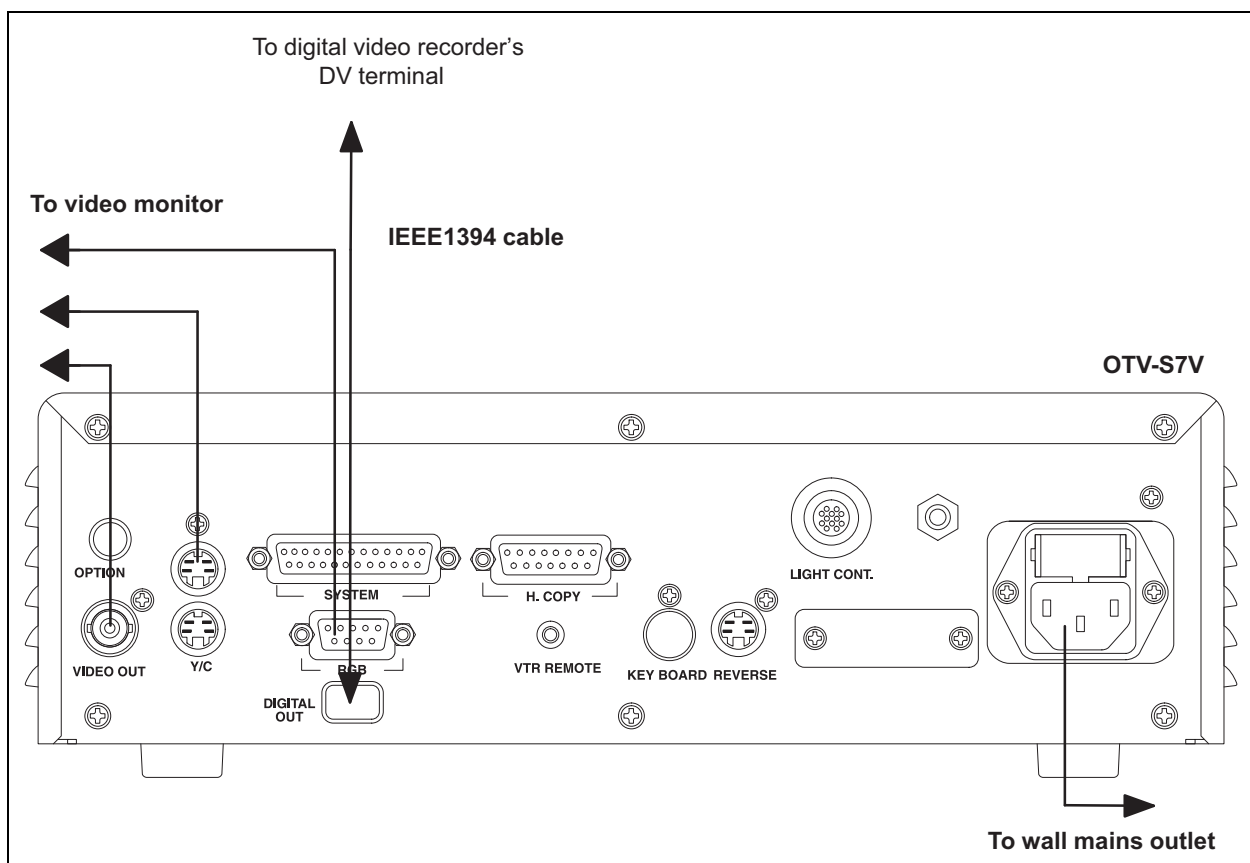

Figure 3.7
4. Connect the digital video recorder as shown in Figure 3.7.